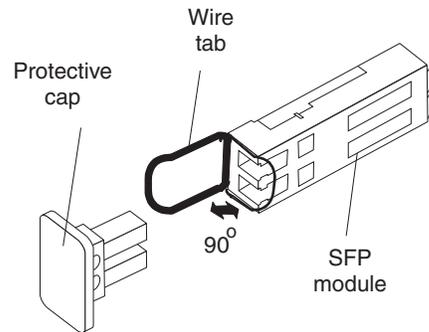

Figure 48. Unlocking the SFP module latch - wire variety
- For SFP modules that contain wire tabs, unlock the SFP module latch by pulling the wire latch outward 90°, as shown in Figure 48.